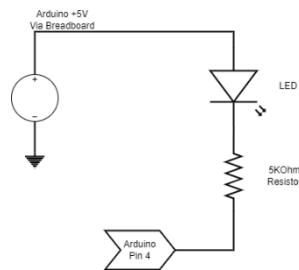

Figure 8: Digital output circuit. Now the pin is acting as current sink.
- Now modify your circuit so that pin 4 acts as a current sink instead, as shown in Figure 8.